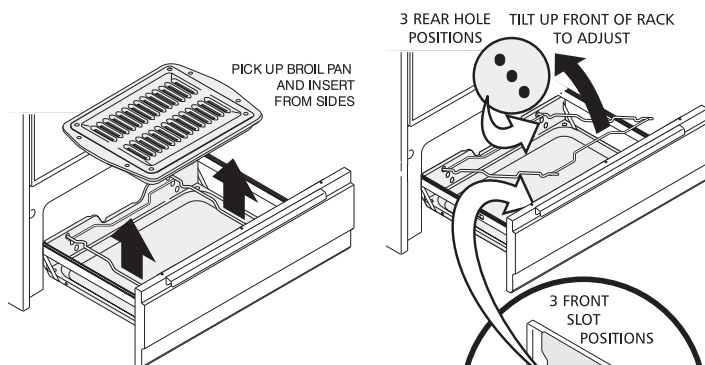

Fig. 1
2. Remove broiler pan and insert (See Fig. 1).
5. Place broiler pan on rack; make sure the broiler pan with the insert is positioned as shown (See Fig. 1). Be sure front of pan is positioned correctly in rack.
1. Open oven door completely (horizontal with floor - See Fig. 1).